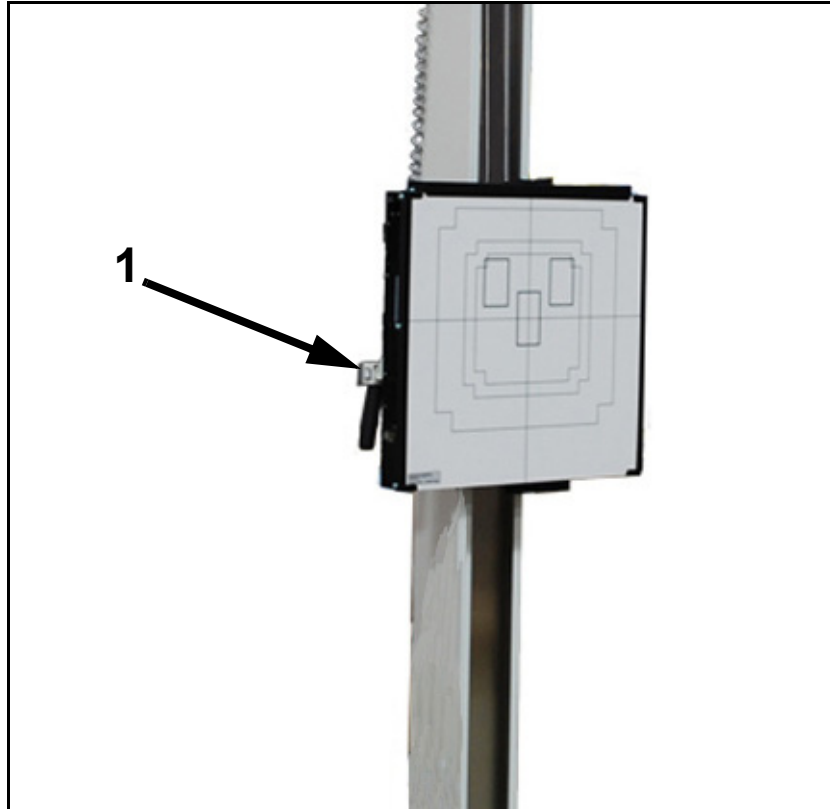

Figure 4-2. Lock Release Button
- 1 Press the lock release button (1 in Figure 4-2) to release the brake. This will allow the user to move the receptor vertically to the desired position.